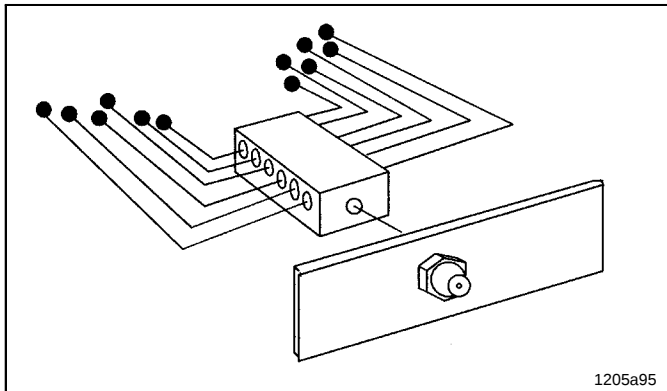

Fig. 49 Central lubrication point (single nipple)
- Quicklub progressive metering devices offer the option of cross-porting several lubrication points on a machine to one or more central lubrication points, as shown in fig. 49 which illustrates this basic feature.